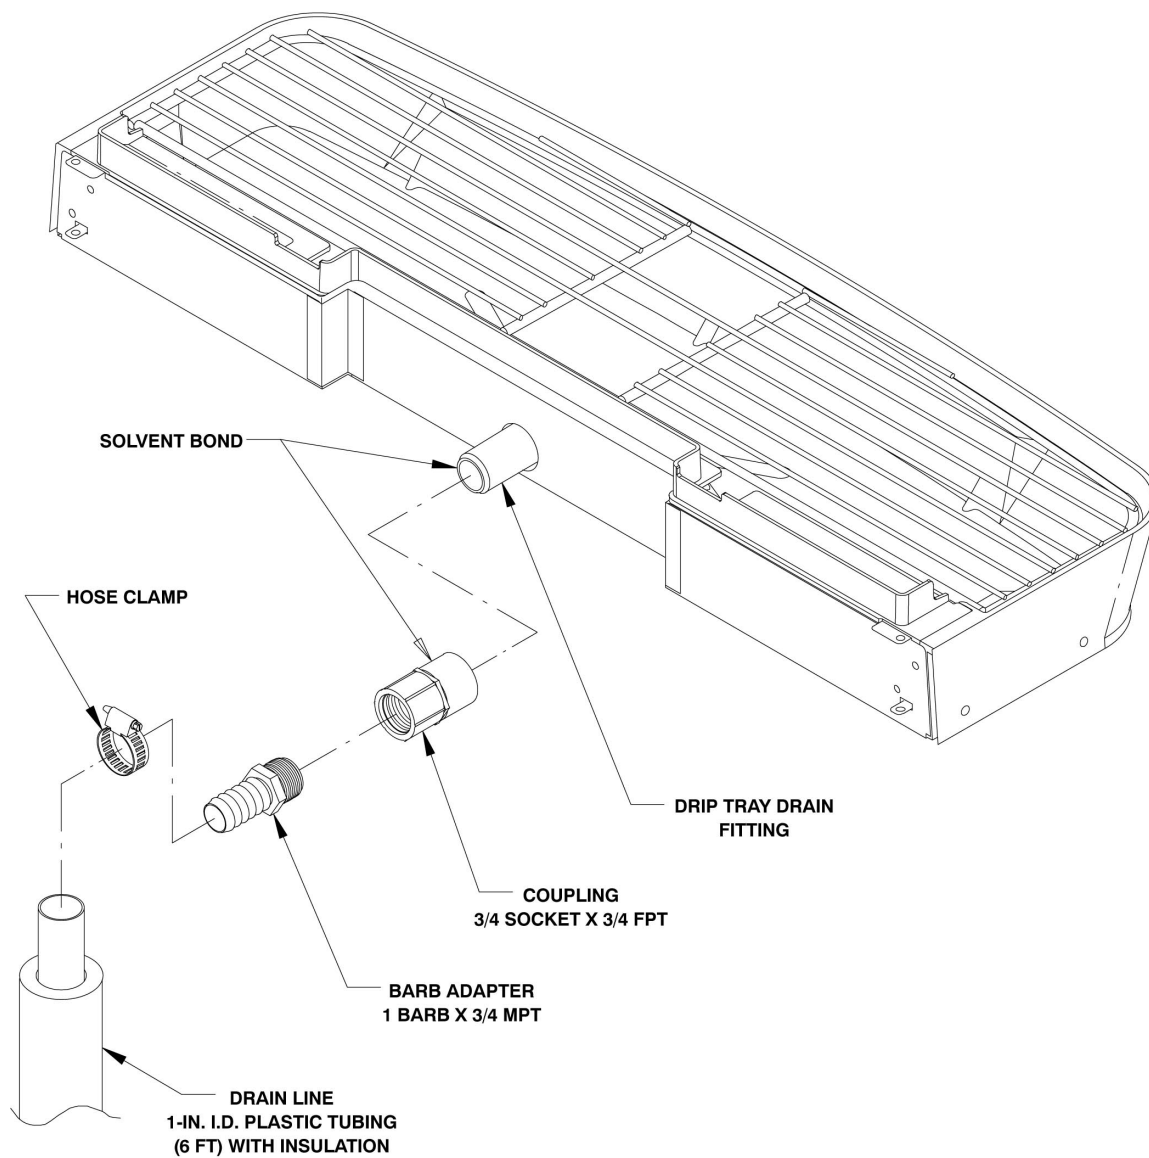

Figure 4. Drip Tray Drain Assembly
3. DRIP TRAY DRAIN ASSEMBLY (see Figure 4). Route the drain tube to an open drain with the end of the tube above the "flood" level of the drain. Use the tubing, fittings, clamps, and insulation provided with the Dispenser to assemble the drain. The completed drain line *must* pitch continuously downward and contain no "traps" or improper drainage will result.